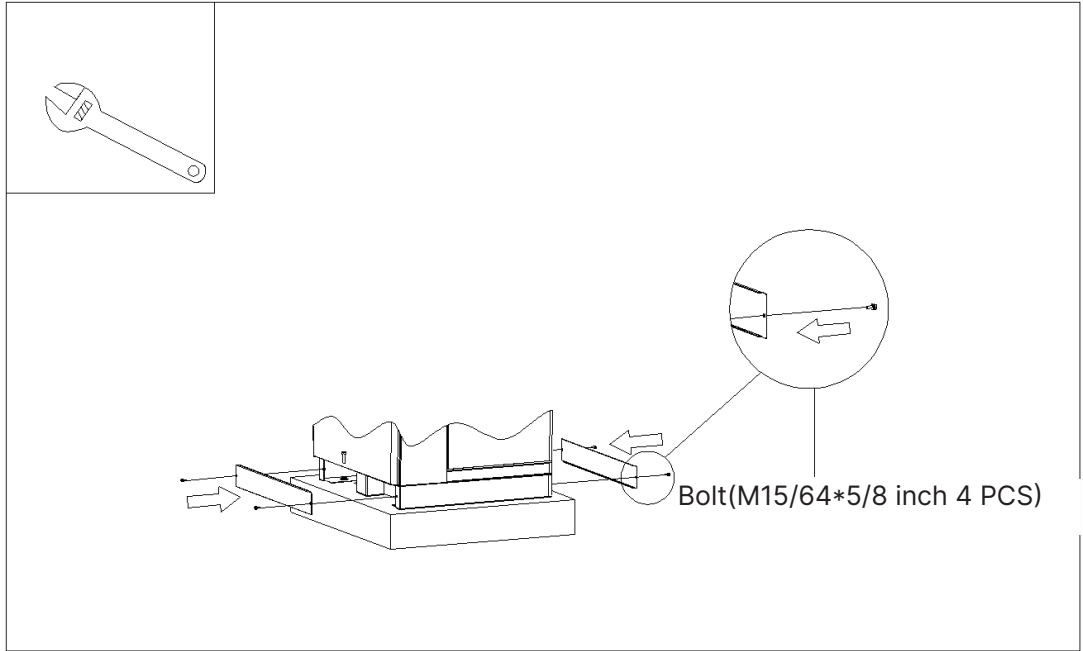

Figure3.4.3-E
Use forklift to transport the cabinet to the installation base, and use the crane to lift the cabinet. It is shown in Figure 3.4.3-A.
- (1) The inlet cable sealing plate is removable
- (2) Do not press on the charging connector cable
3. Install M15/32 * 3-5/32 inches(M12 * 80) (4 pcs)expansion bolts on the drilled installation holes around the base, and tighten the bolts to ensure the cabinet is fixed reliably, as shown in Figure 3.4.3-D
4. Install the left and right sealing plates as shown in Figure 3.4.3-E.